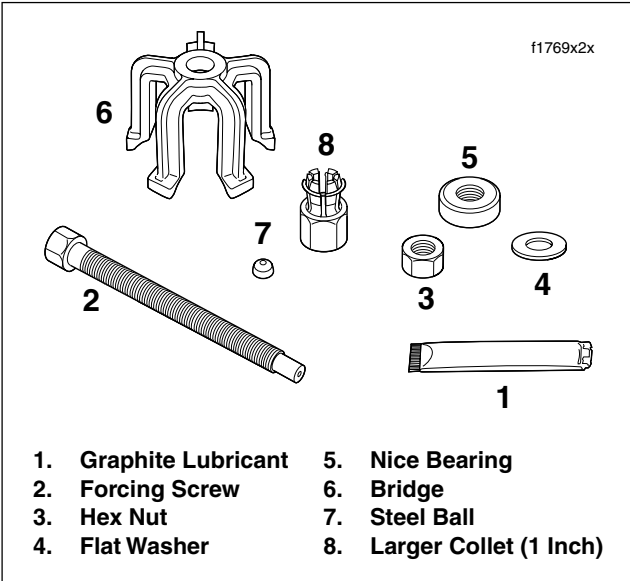

Figure 2-9. Rear Wheel Bearing Remover Tools (Part No. HD-44060)
- b. Obtain the WHEEL BEARING REMOVER/INSTALLER (HD-44060). Pick out the wheel bearing remover tools for the rear wheel. See Figure 2-9.